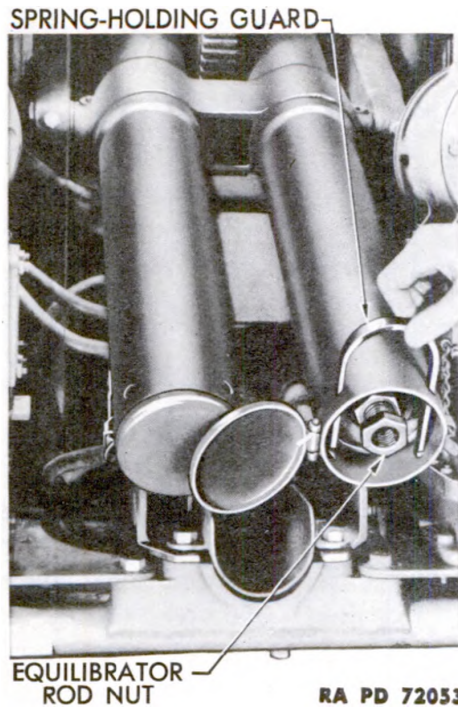

Figure 151 — Spring-holding U-bar — Insertion
(1) Open the equilibrator case cover and insert the springholding U-bar (fig. 151).